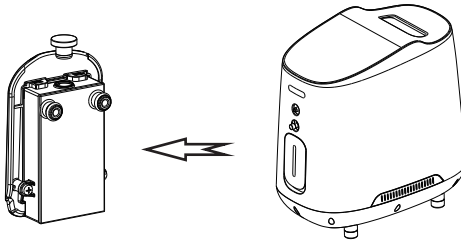

Figure 5
- Gently pull out the humidification bottle in the direction shown in Figure 5, remove the rubber cap at the top, and fill the bottle with cold purified water not exceeding the maximum water level.